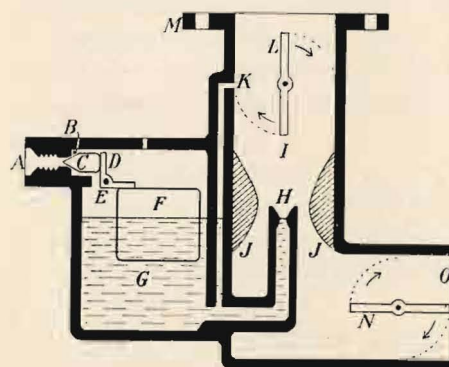

Fig. 8—A simple up-draft carburetor.
**10. Description of Carburetor.** Fig. 8 is a simplified diagram of an *up-draft* carburetor. The *fuel pump* delivers gasoline to *float chamber* G through the opening A, the level of the gasoline being controlled by the float F which operates the *needle-valve* C. Air enters the carburetor through the opening O, the size of which can be controlled by the *choke* N. Opposite the nozzle H the air passes through a constriction J called a *venturi tube* and above this is the *throttle* L, opposite which is another